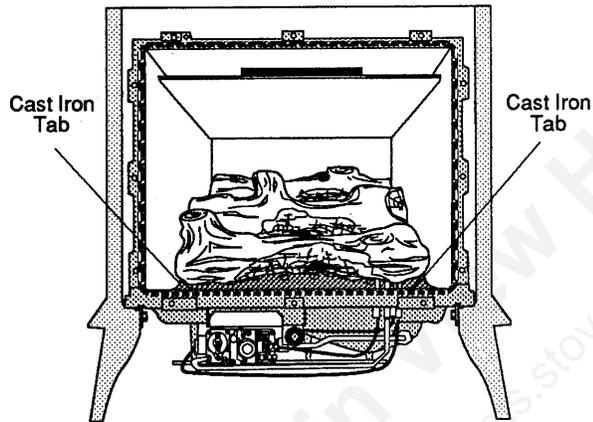

Figure 30. Align the Logset with the screws on the burner plate.
Step 1. The logs are pre-assembled and install as a unit. Center the Log Set on the burner behind the cast iron tabs. The Logs must set tight against the top of the burner plate. Fig 30.